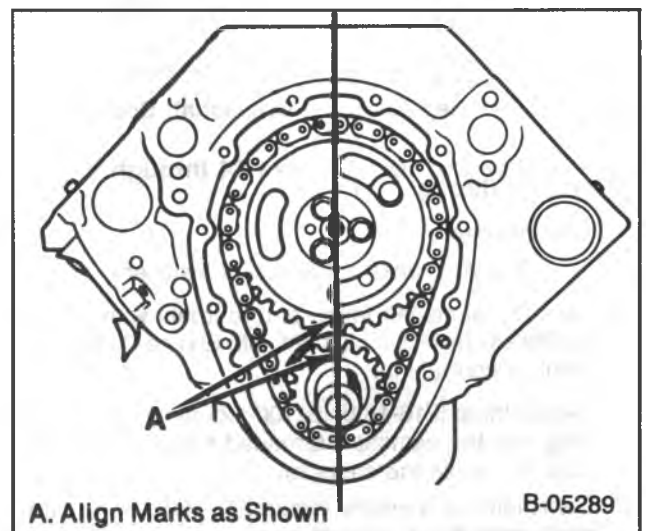

Figure 24 — Timing Marks
Remove or Disconnect (Figures 24, 25, and 26)
- Align the timing marks (Figure 24).
Install or Connect (Figures 24 through 26 and 34 through 37)
- Line up the timing marks on the camshaft sprocket and crankshaft sprocket (figure 24).